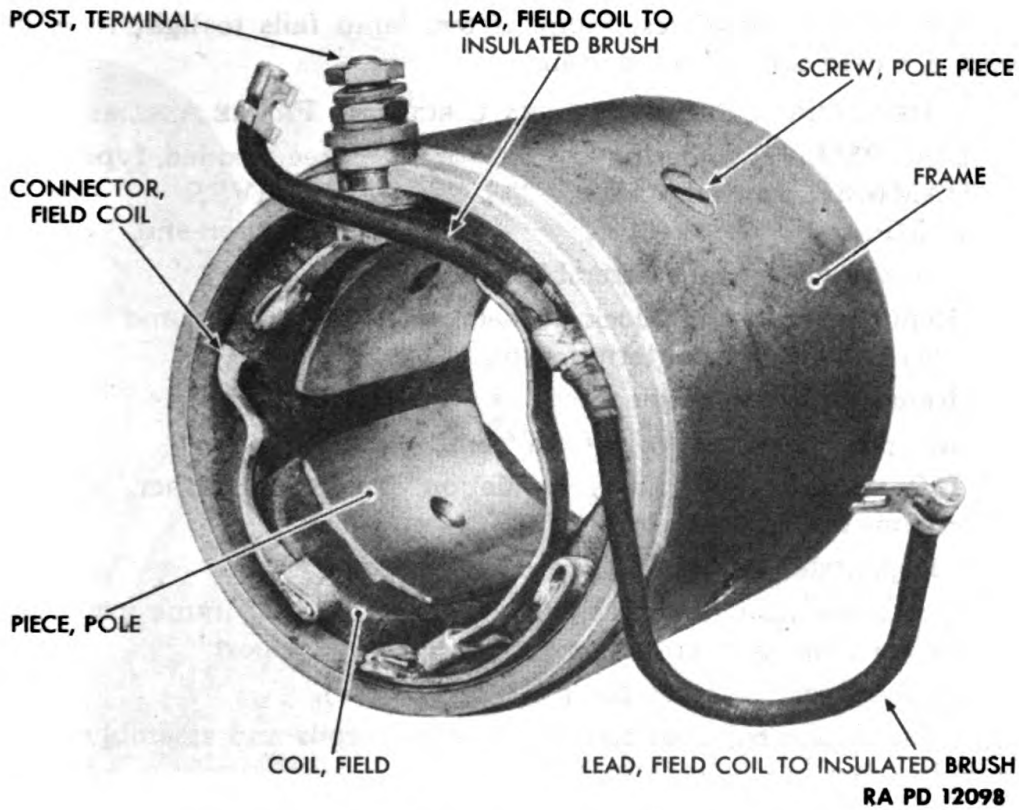

Figure 172—Frame Assembly—Assembled
Bend the 2 leads so that neither touches frame or field (fig. 172). Hold one point of test lamp on frame. Touch terminal post with other tests lamp lead. If test lamp lights, a short circuit is present. To locate the short circuit, disassemble terminal post and repeat test. If test lamp still lights, short circuit is in field coil. If it no longer lights, the short circuit is in terminal post.
1. Remove 2 nuts and 2 lock washers, insulating washer, and terminal post cover insulation from terminal post (figs. 172 and 173).
2. Remove the 4 pole piece screws (fig. 172).